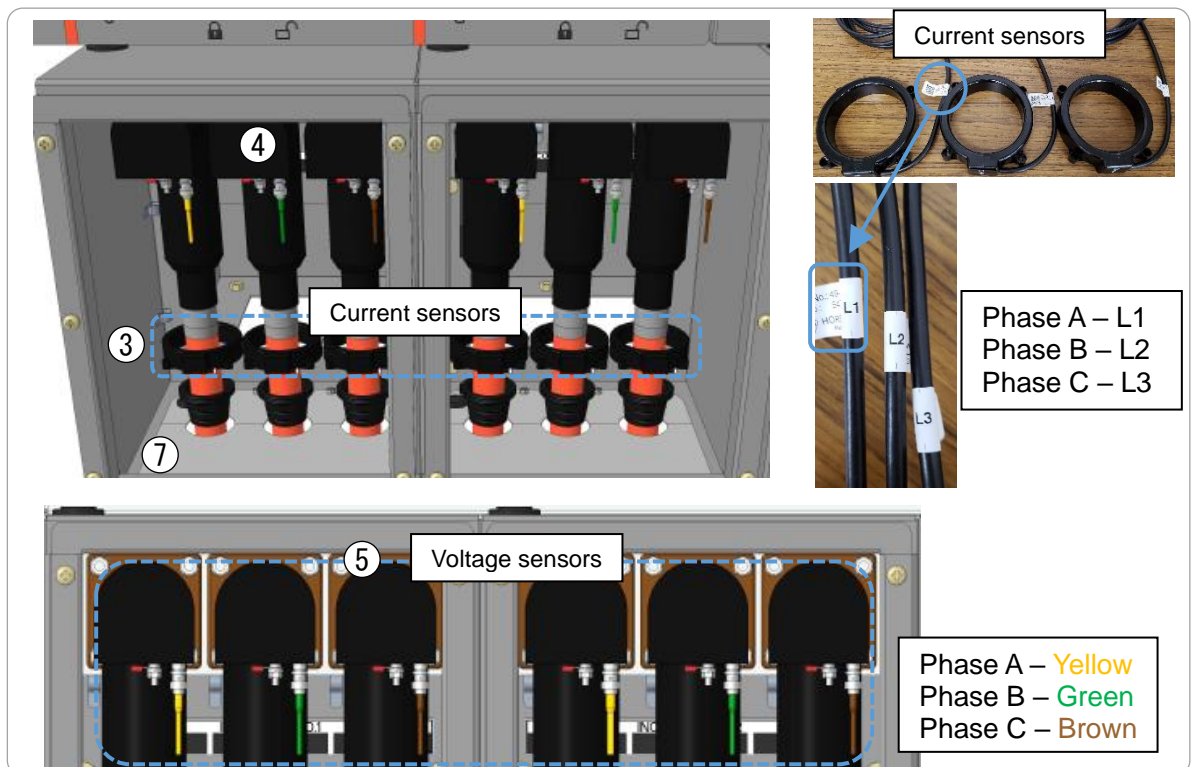

Figure 15. Installation of each part
- ③ Install the current sensors to the cables. Current sensors are numbered L1, L2, and L3, and these sensors shall be installed from phase A to C in order. [Figure. 15]
- ④ Install the cable connector to the cable and attach it to the bushing. [Figure. 15]
- ⑤ Install the voltage sensors. Coaxial cables are colored yellow, green, and brown. These cables shall be installed from Phase A to C in order. [Figure. 15]
- ⑦ Attach the plates in the bottom of cable compartments. [Figure. 15]
- \* Refer to the enclosed instruction manuals issued by Ingeteam and Horstman for the installation procedures of ③ and ⑤.